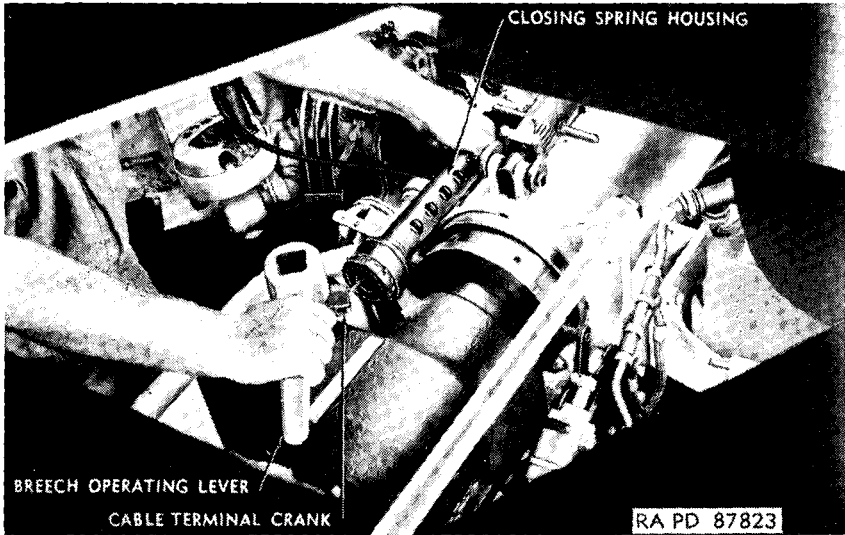

Figure 187. Removing closing spring.
- (2) Place the breech operating lever on the cable terminal crank and open breech until the ball fitting on the cable clears the closing spring housing nut. Place the breechblock closing spring locking washer 41-W-22 ahead of the ball fitting and close the breechblock until the spring tension is supported by the washer.
- (3) Remove the breech operating crank screw. Pull shaft completely out of breech ring. Slide the breechblock and breechblock crank completely out of the breech ring.
- (4) Hook the ball fitting, at the end of the closing spring, in the cable terminal crank. Place the breech operating lever on the crank and pull back on the lever until the breechblock closing spring locking washer can be removed. Let up on the lever until the closing spring piston starts to come out of the closing spring housing. Hold the piston with one hand and continue raising the operating lever until the ball fitting is forced out of the cable terminal crank. Remove the closing spring, piston, adapter, and cable from the housing (fig. 187).
- (5) Clean and lubricate in accordance with lubrication order.